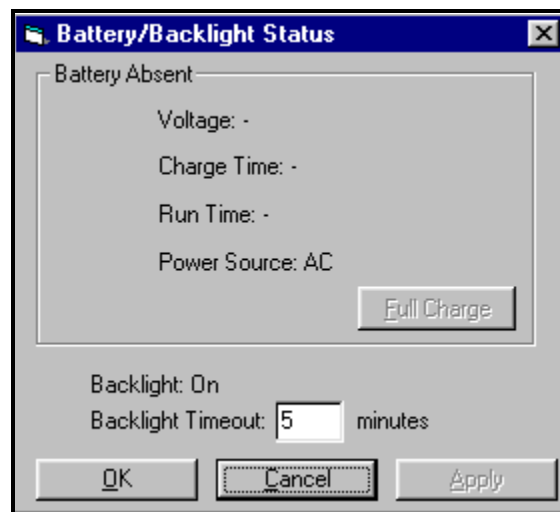

Figure 4-11: Battery/Backlight Status
2. From the network tree, double-click on “*Battery/Backlight*.” The “*Battery/Backlight Status*” window appears, as shown in Figure 4-11 below.